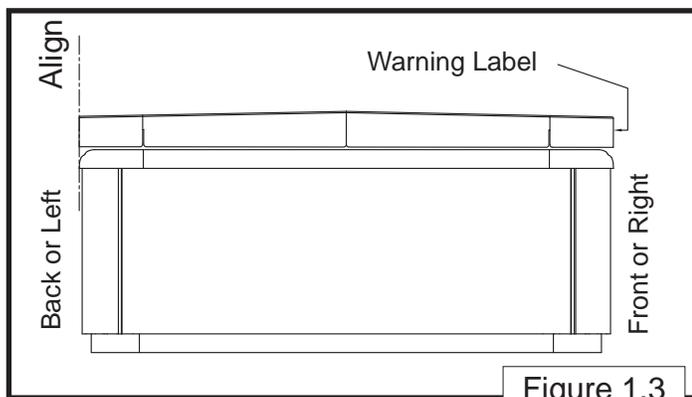

Figure 1.3
- 1b. Refer to (Figure 1.3) for the Left and Right cover lifter set orientation:
- 3a. Position the cover evenly on all spa sides. See (Figure 1.3).